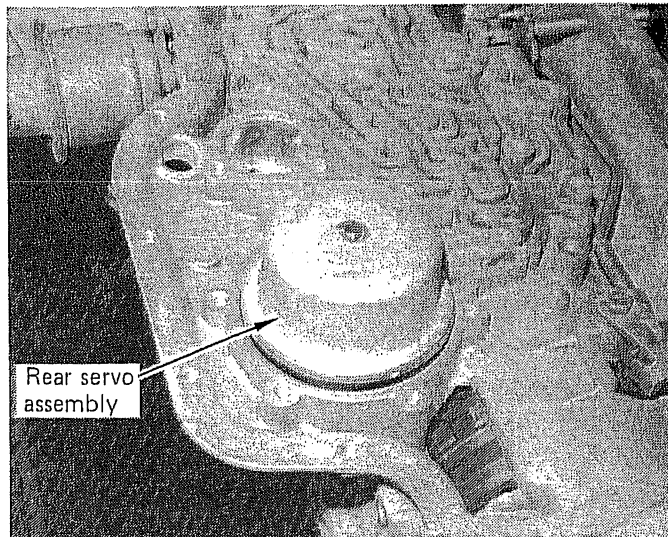

FIGURE 51
**STEP 23.** Lubricate piston seal with automatic transmission fluid. Install rear servo assembly into transmission case. (See Fig. 51) Install aluminum servo cover gasket in place. Install servo cover and six bolts and draw the bolts down slowly to seat the cover. Tighten bolts to 18 to 20-ft. lbs.